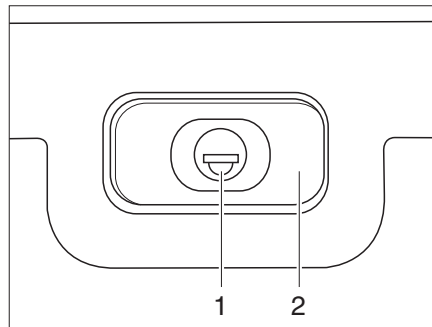

Fig. 31 Flap lock, rectangular, locked
- Insert the key into the locking cylinder (Bild 31,1) and turn a quarter turn. Lock handle (Bild 31,2) is released.